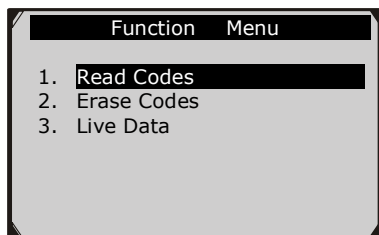
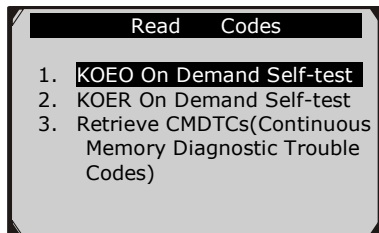

Figure 5.23
Figure 5.24
In the **Function Menu** screen (Figure 5.23), select **Read Codes**. This will display the **Read Codes** menu screen (Figure 5.24).
1. With the **Function Menu** screen displayed (Figure 5.23), click on **Erase Codes**. The scan tool displays an instruction message.